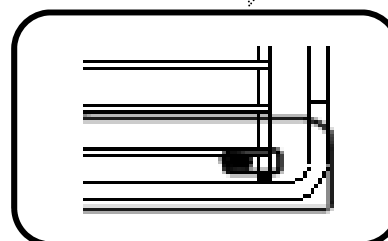

Fig 9.
Tighten the P clips against the angle plates (B) using 4 x M4 x 8mm pozi bolts (H) as shown in Fig 9.